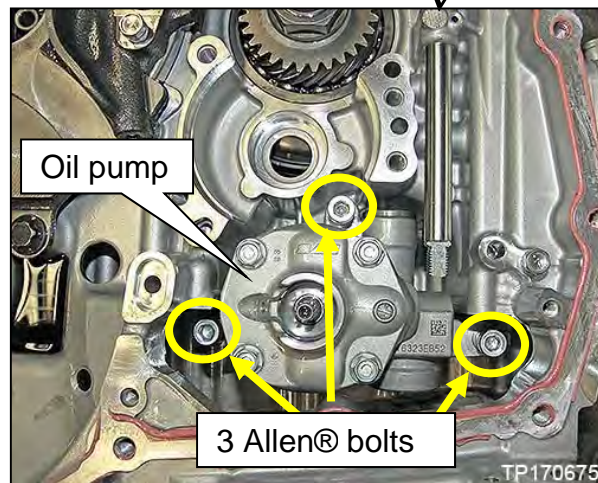

Figure 91
70. Remove the three (3) Allen® bolts shown in Figure 91 and then remove the oil pump from the CVT case.